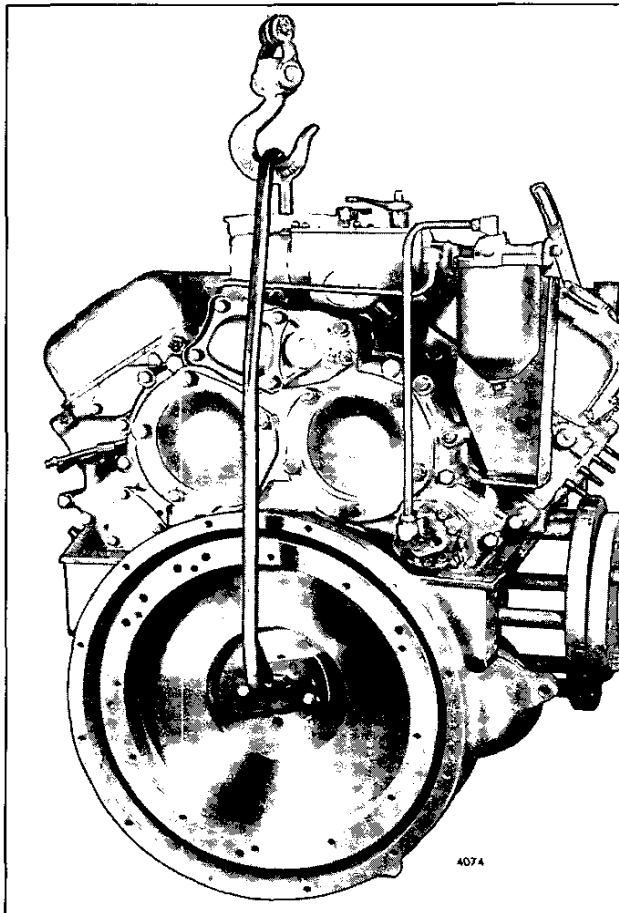

Fig. 1 – Removing Flywheel
- b. Attach flywheel lifting tool J 6361-01 to the flywheel with two 3/8"-16 bolts of suitable length as shown in Fig. 1 or use tool J 25026.